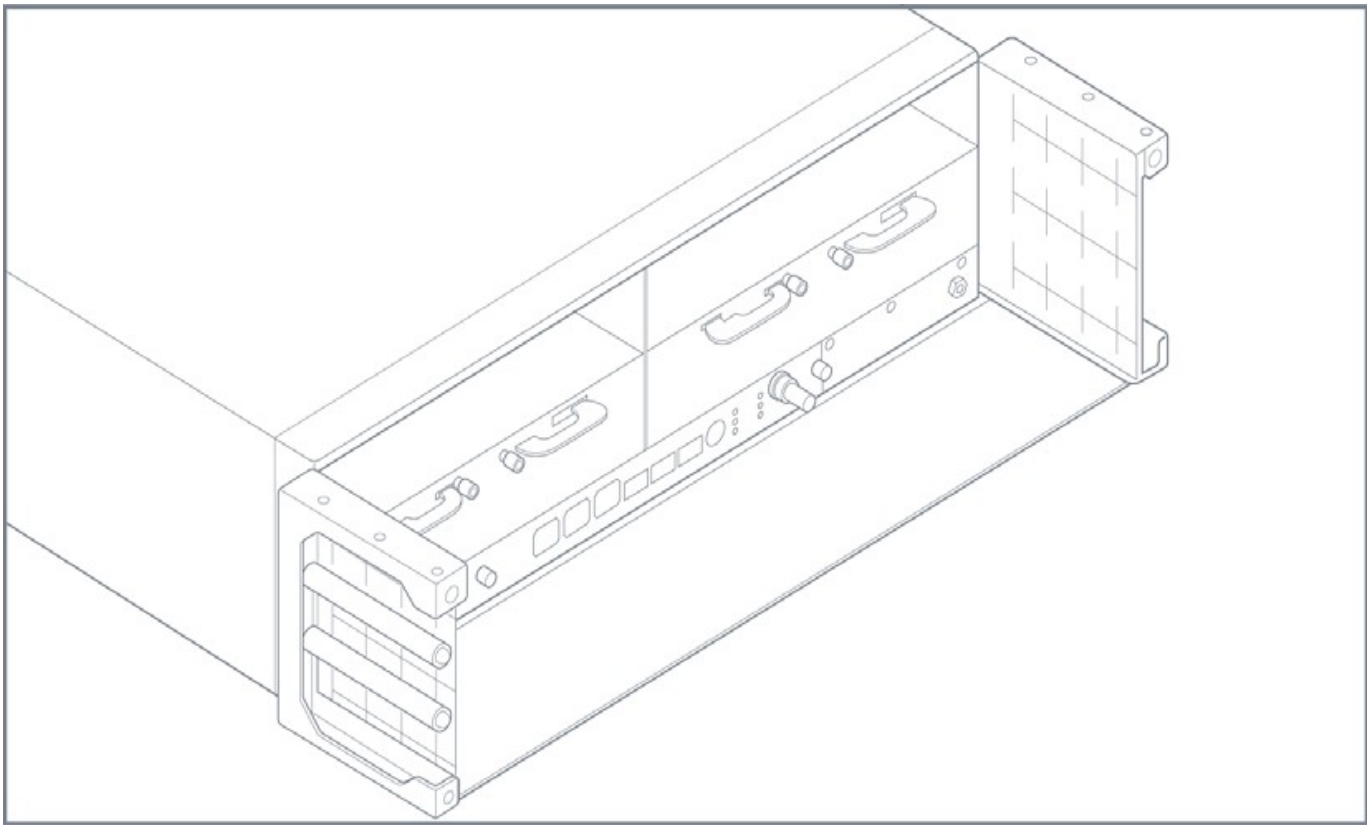

Figure 3-7: Cable Management Sides and Bottom Plate
2. To install cable management on the GigaVUE-HC3 node, first attach the sides to the left and right of the chassis. Attach two screws on each side of the chassis, as shown in Figure 3-7.
3. Slide the bottom plate onto the two sides, as shown in Figure 3-7.
6. Tighten the two screws at the front of the cable management assembly, as shown in Figure 3-7.